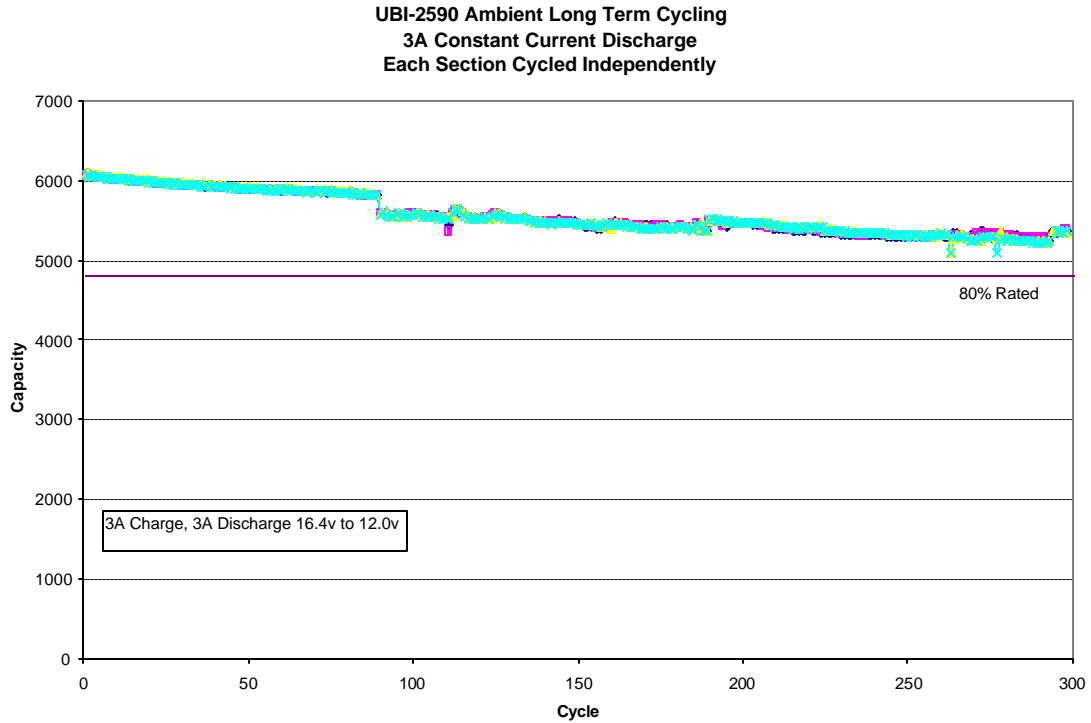

Figure 8
- 12.2. A graph of sections cycled independently under ambient temperatures. A constant current discharge of 3A was used until the voltage reaches 12.0v. This graph illustrates that both sections of the pack are capable of supplying over 80% of rated capacity at 300 cycles. See Figure 8.